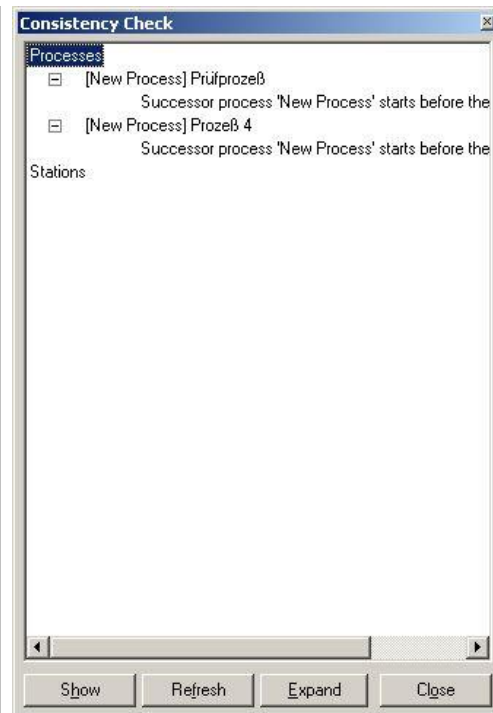

Figure 91: Consistency Test Dialog
This function is active in the standard configuration. If you deactivate **Show consistency check after doing an automatic balancing**, consistency checks will no longer be displayed after starting or re-starting the work load balancing. Please refer to the Figure 91.
In the Consistency Check dialog the consistency of a balancing process is checked. In case of a recalculation of a balancing process, Automatic Line Balancing will automatically execute the consistency check. *Please refer to the Figure 91.*
- 3) Alternatively, you can select a process by double-clicking on it to display it in both views. *Please refer to the Figure 91.*